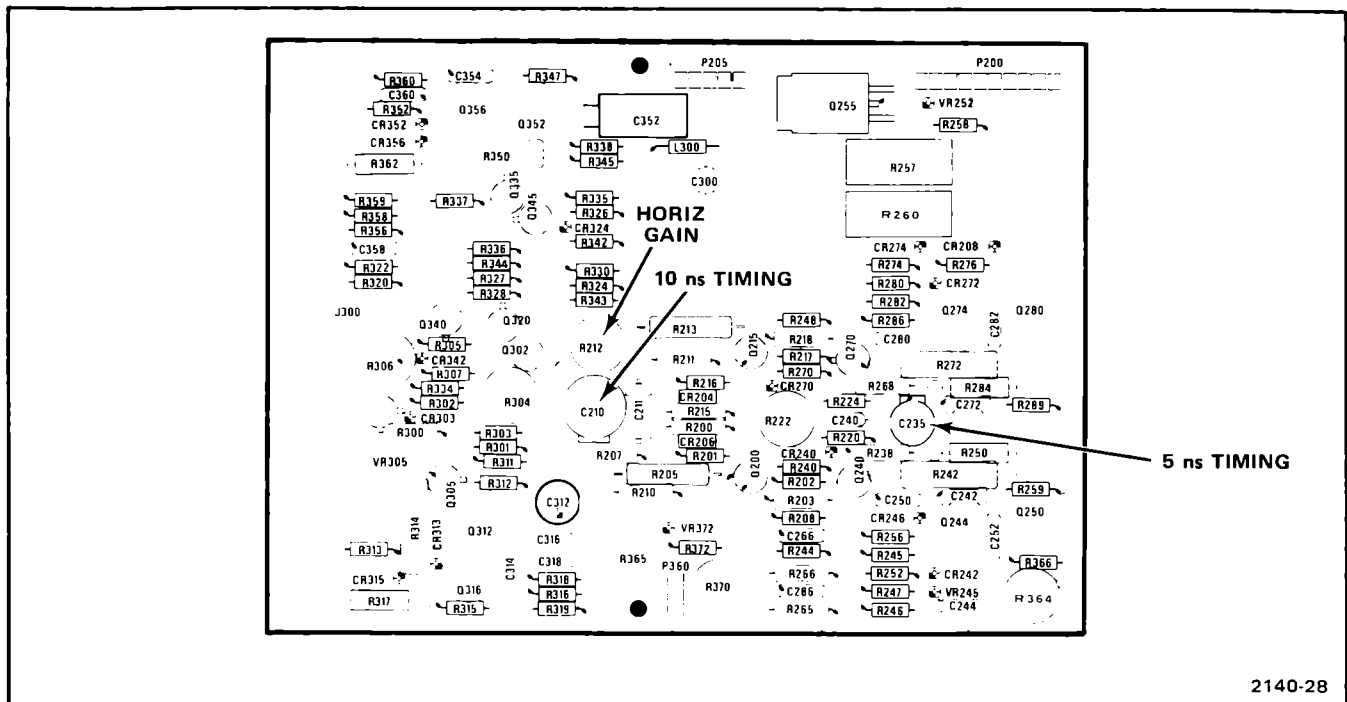

Fig. 4-6. Location of Horizontal adjustments (Horizontal circuit board).
c. ADJUST—Horizontal Centering R222 to position the trace to center vertical graticule line. See Fig. 4-6 for the adjustment location.
f. ADJUST—C210 for one 10 ns marker per division over the center eight major graticule divisions of the display. Sweep accuracy is $\pm 5\%$ over the entire sweep, excluding the first 30 ns and the last 10 div of the magnified sweep. See Fig. 4-6 for the adjustment location.
d. ADJUST—C235 for two 5 ns markers per division over the center eight graticule divisions of the display. Sweep accuracy is $\pm 6\%$ over the entire sweep, excluding the first 30 ns and the last 10 div of the magnified sweep. See Fig. 4-6 for the adjustment location.
d. ADJUST—Horizontal Centering R222 to position the trace to the center vertical graticule line. See Fig. 4-6 for the adjustment location.
d. ADJUST—Horizontal Gain R212 for 5 div of deflection. See Fig. 4-6 for the adjustment location.
e. ADJUST—C210 for one 10 ns marker per division over the center eight major graticule divisions of the display. Sweep accuracy is $\pm 5\%$ over the entire sweep, excluding the first 30 ns and the last 10 div of the magnified sweep. See Fig. 4-6 for the adjustment location.
e. ADJUST—C235 for two 5 ns markers per division over the center eight graticule divisions of the display. Sweep accuracy is $\pm 6\%$ over the entire sweep, excluding the first 30 ns and the last 10 div of the magnified sweep. See Fig. 4-6 for adjustment location.